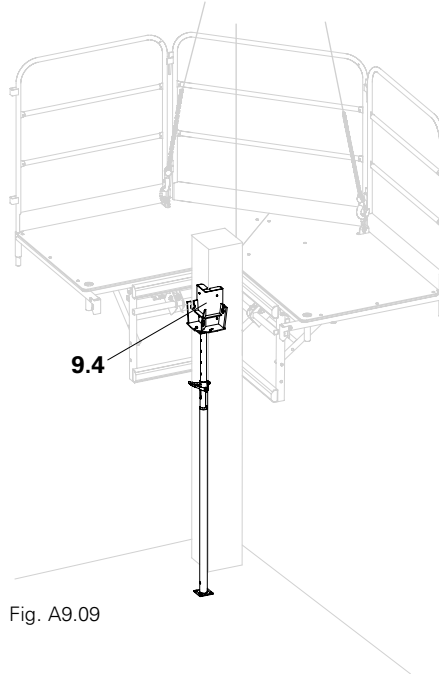

Fig. A9.09
2. Screw the Interior Angle GCP (9.4) to the slab prop (2x M12 x 40 ISO 4016-4.6 MU), position on the column and secure. (Fig. A9.09)